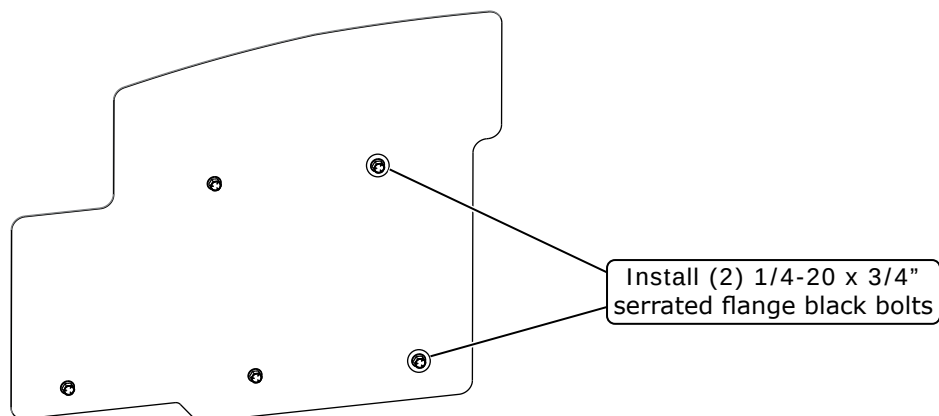

Figure 3
7. Once the module is in position and leveled, from the engine compartment, install (2) 1/4-20 x 3/4" serrated flange black bolts (one in the upper mounting hole and one replacing the 1/4-20 full-length stud) (See Figure 3, below).